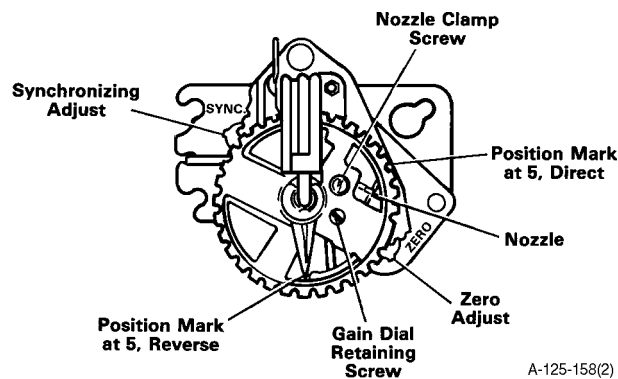

Figure 24. Gain Unit, Dial Removed
8. After optimum gain and reset values have been adjusted and process is stable, the process and set-pointers should be lined up. If they do not, turn the SYNC adjustment, Figure 24, to bring them together.
10. After this optimum gain setting has been determined and the process is stable, the process and set-pointer should line up. If they do not, turn SYNC adjustment, Figure 24, to bring them together.